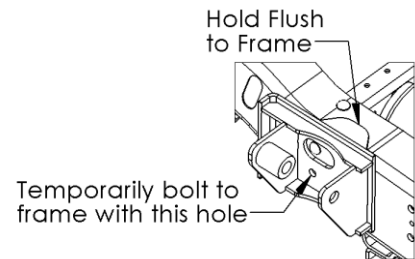

Figure 10. Upper Strut Mount placement for hole drilling
2. Locate the Left-Hand Upper Strut Mount and rest the extruded flange flush with the top of the frame and use a 1/2-13 x 1.75 Hex Flange Bolt to temporarily secure the mount to the frame. See Figure 10